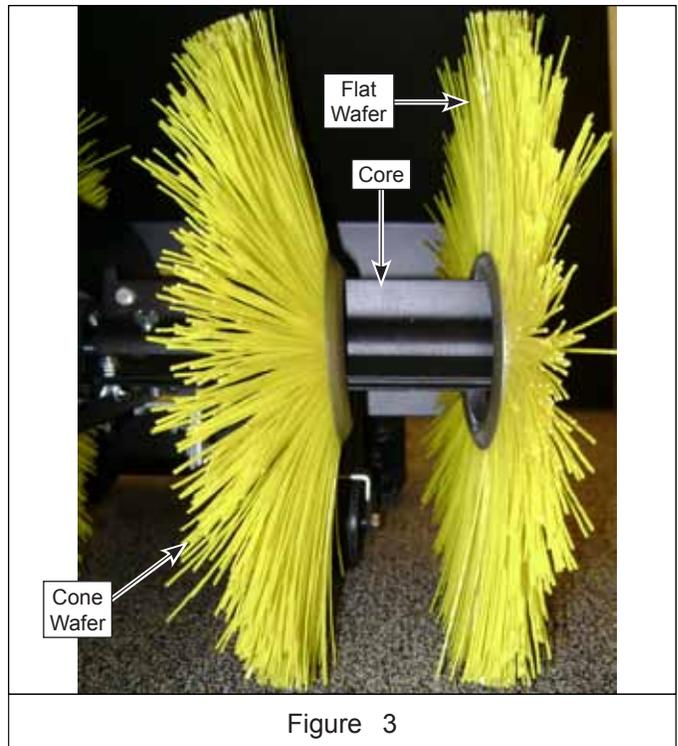

Figure 3
- Slide a new, cone-shaped wafer, with bristles pointing inward toward center of broom, and then a flat wafer onto core. See Figure 3.